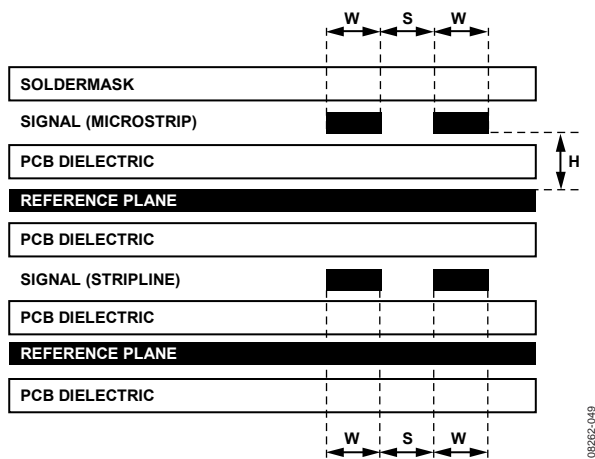

Figure 48. Example of a PCB Cross-Section
The high speed differential inputs and outputs should be routed with $100\ \Omega$ controlled impedance differential transmission lines. The transmission lines, either microstrip or stripline, should be referenced to a solid low impedance reference plane. An example of a PCB cross-section is shown in Figure 48. The trace width (W), differential spacing (S), height above reference plane (H), and dielectric constant of the PCB material determine the characteristic impedance. Adjacent channels should be kept apart by a distance greater than $3W$ to minimize crosstalk.